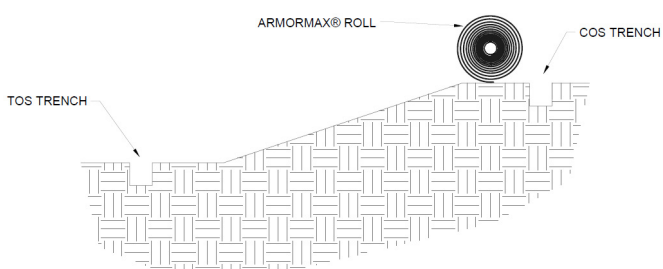
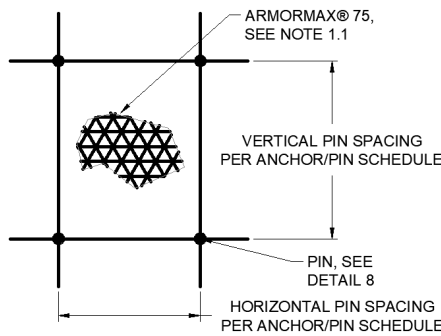
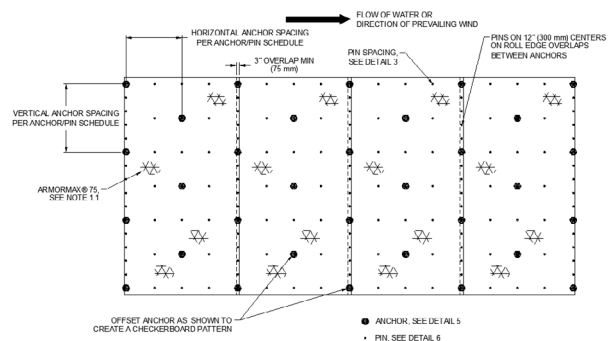

Figure 3: Crest of Slope (COS) Trench Alignment
Figure 7: Example Pin Pattern
Figure 8: Example of Anchor Pattern - 0.5 Anchors/yd2
2. Starting at the COS trench, lay **PROPEX** Armormax roll so that the roll ends point towards the crest of the slope (Figure 3), with a 3 in (75 mm) overlap created at adjacent panel edge locations. Ensure that adjacent panel edges maintain a minimum 3 in (75 mm) overlap during **PROPEX** Armormax laydown (Figure 8).
- Secure HPTRM panels in place using pins, primary anchors, and anchors across the slope surface according to the project's engineered design. Pin and anchor placement should reflect a staggered checkerboard pattern across the slope surface for best results (Figure 7 and Figure 8).
- Roll edges shall be overlapped a minimum of 3 in (75 mm) and a maximum of 6 in (150mm) with pins placed on 12 in (300 mm) centers in between anchors on intervals based on the slope stability analysis (Figure 8).
9. Continue to work down the length of the slope by repeating steps 1 through 8 overlapping each adjacent HPTRM panel by 3 in (75 mm) (Figure 8). The last **PROPEX** Armormax panel should terminate on the Slope Armoring Edge (SAE) with pins on 12 in (300 mm) centers in between anchors on intervals based on the slope stability analysis. At a minimum, HPTRM panels should be pinned entirely across the slope surface, pins and anchors should be installed in the trenches, and the trenches should be backfilled and compacted at the end of each day to minimize rework in the case of a major rain event. Specific project conditions may warrant further evaluation of installation order for ease. An example elevation view (Figure 13) of a slope armored with **PROPEX** Armormax can be seen below for overall reference. Consult Solmax Engineering Services at (800) 621-1273 with any questions that you may have.